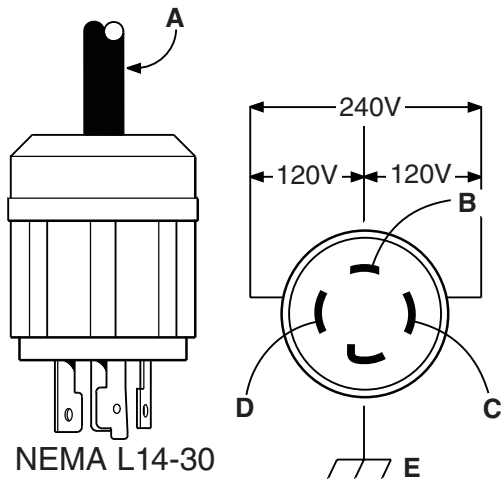

Figure 4 — 120/240 Volt AC, 30 Amp Receptacle
Use a NEMA L14-30 plug with this receptacle. Connect a 4-wire cord set (A) rated for 250 Volt AC loads at 30 Amps (or greater) (Figure 4). You can use the same 4-wire cord if you plan to run a 120 Volt load.